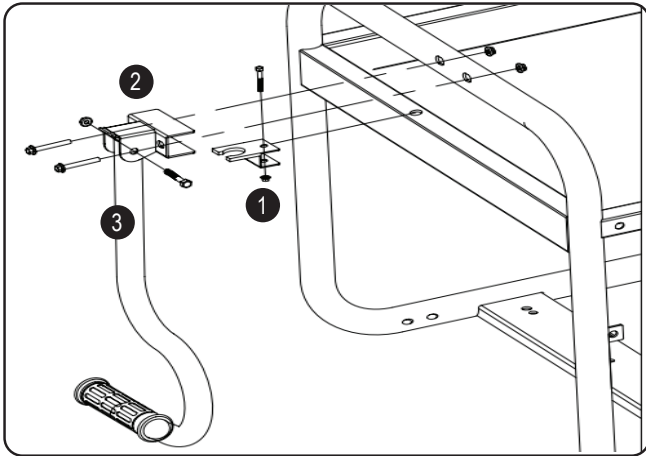

Fig 3
Handle Assembly (See fig 3)
- 1 Install handle lock holder by inserting bolt and lock nut. (fig 3)